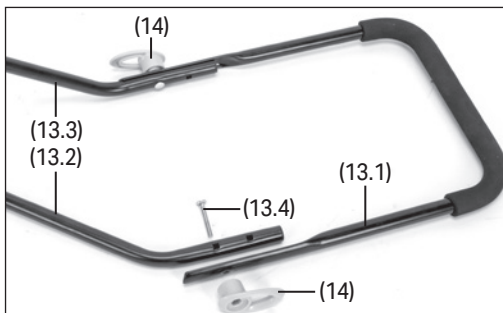
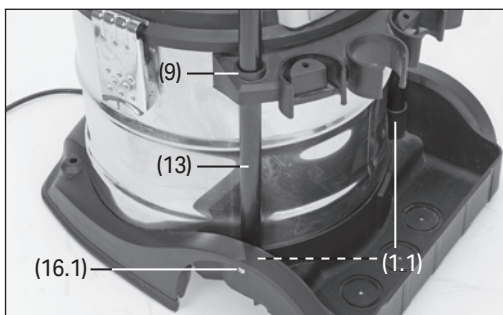

Fig. 1
Fig. 2
7.1 Fitting the Push Handle (Fig.1 & Fig.2)
1. Assemble the main hand grip (13.1) with the two uprights (13.2 & 13.3) and the handle fixing knobs (13.4 & 14) as shown in Fig. 1.
2. Slide the assembled handle (13) through the holes in the tool storage (9) section at the rear of the tank. Then push down into the slots (1.1) in the base – press down firmly until securely fitted in place.
3. To secure on each side, fit the supplied screws through the hole in the rear wheel housing (16.1) and the hole in the handle frame (13).